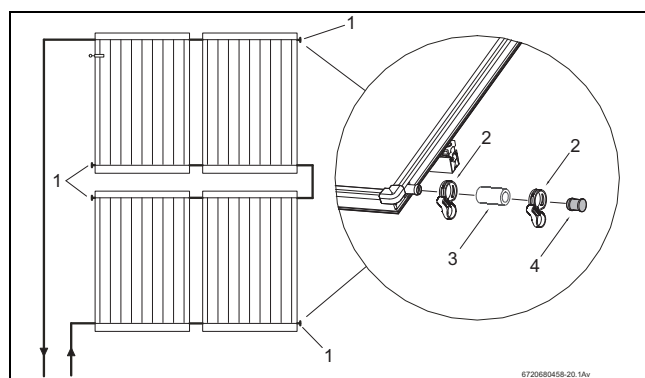

Fig. 57 Mounting the pre-assembled dummy plugs
Use a dummy plug to close the collector connections which will not be used (Fig. 57, [1]).
- Insert the 55 mm solar hoses (Fig. 57, [3]) with the pre-assembled dummy plug in the two free connections.